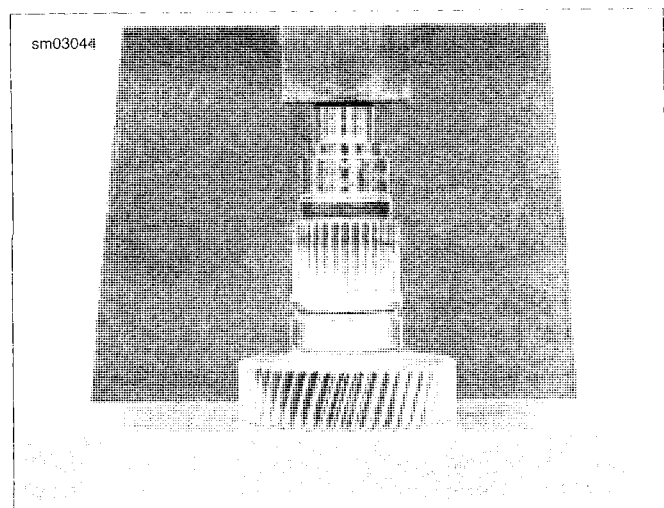

Figure 6-39. Pressing in Seal
4. See Figure 6-39. Turn over tool and press in mainshaft seal using the 0.090 in. step with garter spring side down.